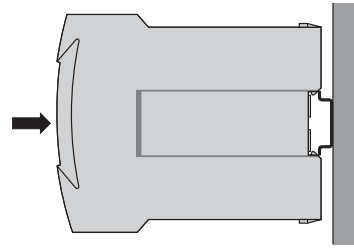

Fig. 5. Mounting on top-hat rail 35 × 15 or 35 × 7.5 mm.
Simply clip the device onto the top-hat rail (EN 50 022) (see Fig. 5).
While pressing the latch (4) in the base of the device (Fig. 5, left) pull out the transmitter securing brackets (1). To return the brackets to their original positions, the latch (5) in the base of the device has to be depressed before applying pressure to the securing brackets (1) (see Fig. 5, right).